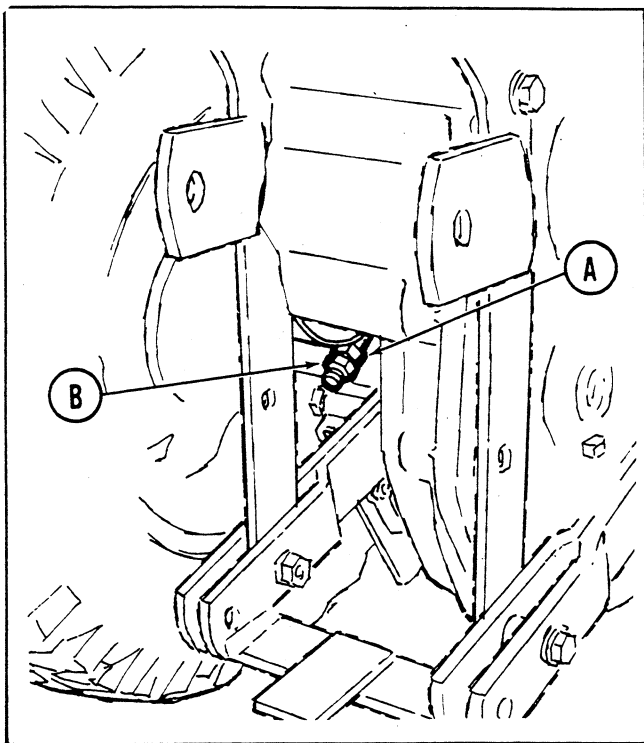

Figure 12. Brake adjustment near left rear wheel.
1. See figure 12. Use one open end wrench to hold nut (A) stationary, and another wrench to turn nut (B) counter-clockwise to loosen it slightly.
2. Turning nut (A) clockwise will give more braking action and turning it counter-clockwise will give less. The brake ad-